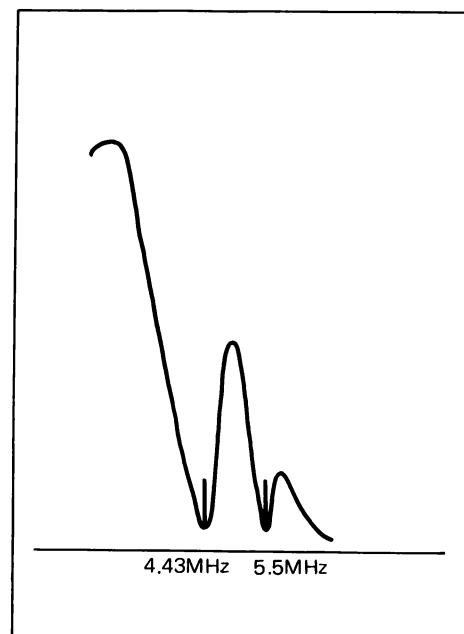

Figure 29.
1. Adjust chroma trap(T202) for minimum display at 4.43 MHz on the scope. (Figure 29)
2. Adjust sound trap(T201) for minimum display at 5.5 MHz on the scope. (Figure 29)